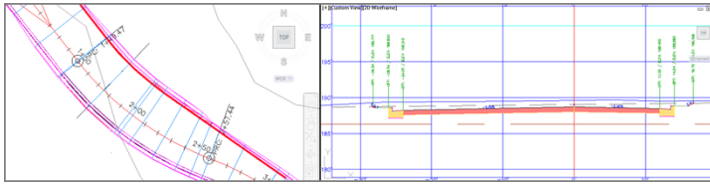

FIGURE 10.4 A plan view (left) and section view (right) of the corridor after the ditches have been removed
14. Click the corridor, and then click Rebuild Corridor on the ribbon. The ditches have been removed from the corridor, as shown in Figure 10.4.